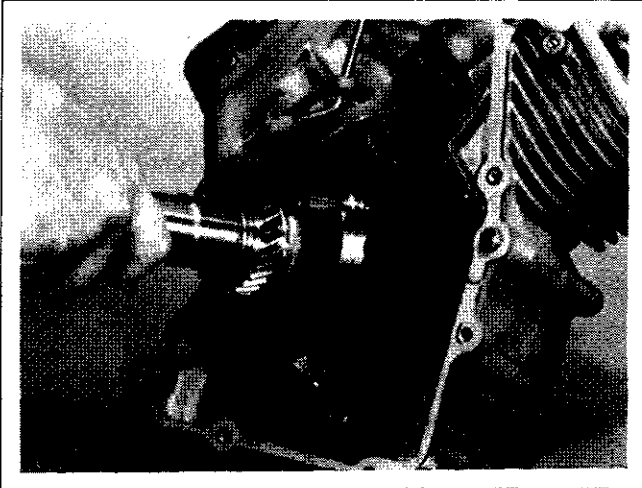

Figure 11-5. Installing Crankshaft.
1. Carefully slide flywheel end of crankshaft through main bearing in crankcase. See Figure 11-5.